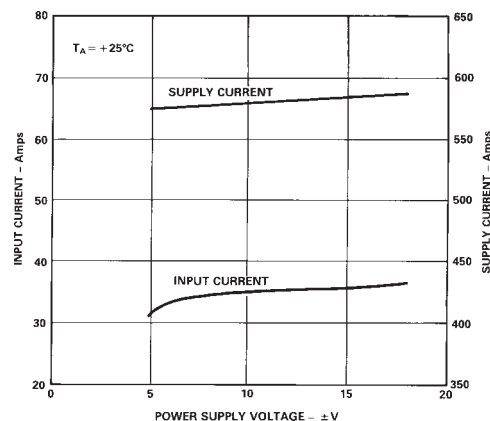

Figure 8. Input Bias Current and Supply Current vs. Supply Voltage
2. The heat dissipation can be reduced initially by careful investigation of the application. First, if it is possible to reduce the required power supplies, this should be done since internal power consumption contributes the largest component of self-heating. To minimize this effect, the quiescent current of the AD515A has been reduced to less than 1 mA. Figure 8 shows typical input bias current and quiescent current versus supply voltage.